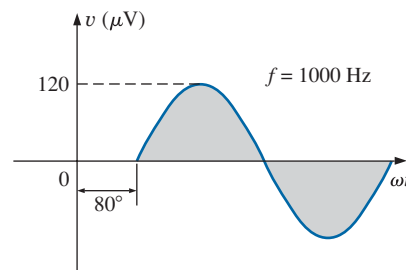

FIG. 13.92
30. Write the analytical expression for the waveform of Fig. 13.92 with the phase angle in degrees.